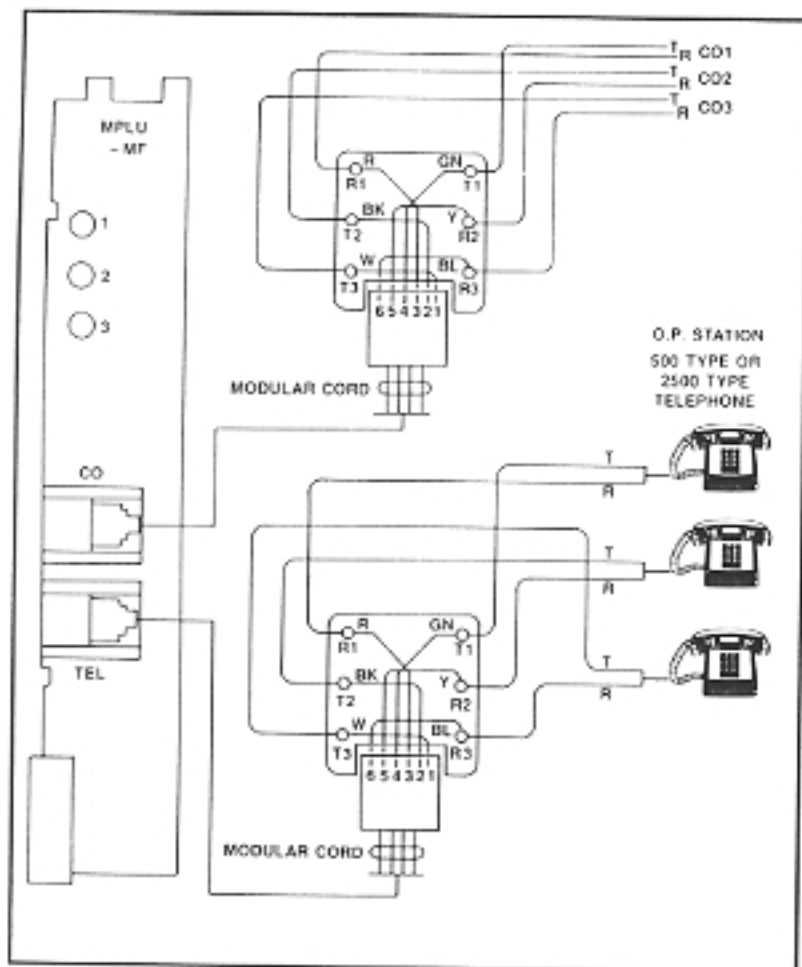

FIGURE 27—MPLU WIRING
07.51 OPL connections are made via 6-wire modular cords to the front of the MPLU. Two cords are required; one is connected to the CO jack and serves up to three CO/PBX line connections, the second connects to the TEL jack and serves the three OPL stations provided by that PCB (Figure 27). The MPLU occupies an MCOU PCB position.